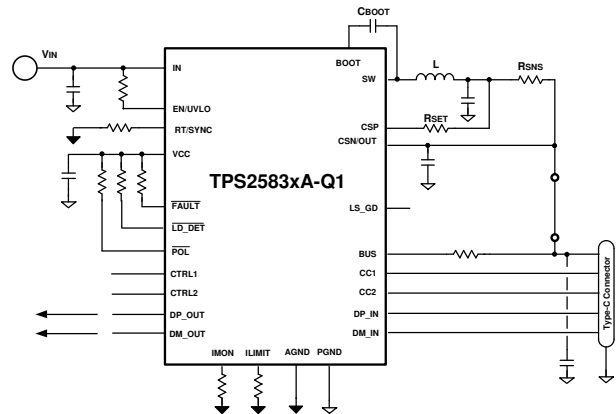

Figure 10-17. TPS2583xA-Q1 Buck Average Current Limit
- Buck Average Current Limit Figure 10-17: